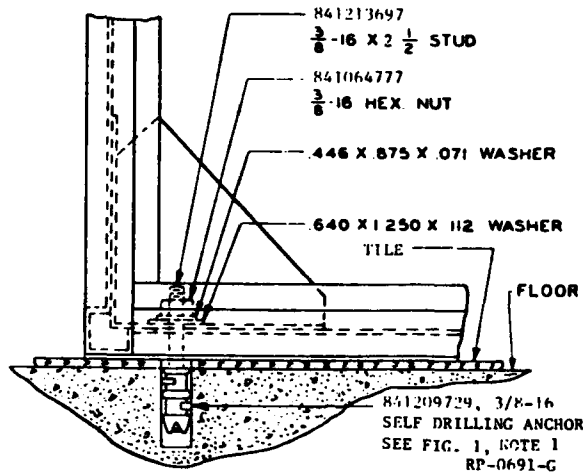

FIG. 7D FASTENING CABINETS WITH ROLLED SHEET METAL CORNER RAILS TO FLOORS (PAR. 5.61) (BSP 800-614-154 Fig. 7D)
5.61 Cabinets, when aligned end to end, should be fastened to the floor as shown in Figures 7D and 7E at each of the four outside corners and have one fastening in each cabinet at the junctions. The fastenings at the junctions should be diagonally opposed so that there is one fastening at each end of the junction.